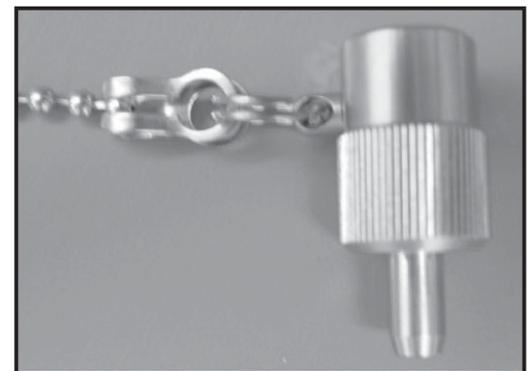

Fig. 4: Vent Cap
**Warning: A vent valve is located on the endoscope body. The vent cap (see Fig. 4) must be connected before ETO gas sterilization, before dispatch and before ventilation, as the endoscope may otherwise be damaged by pressure changes.**